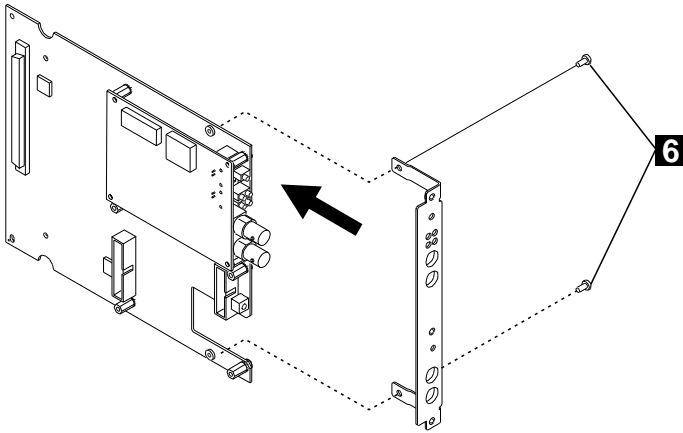

Figure 22. Attaching the Faceplate Bracket
- **6** Attach the faceplate bracket to the motherboard using the two screws ( **6** in Figure 22) from the old dummy bracket.
- \_\_\_ **4** Unscrew and remove the two screws that attach the faceplate bracket to the motherboard ( **6** in Figure 22 on page 84) and remove the bracket.